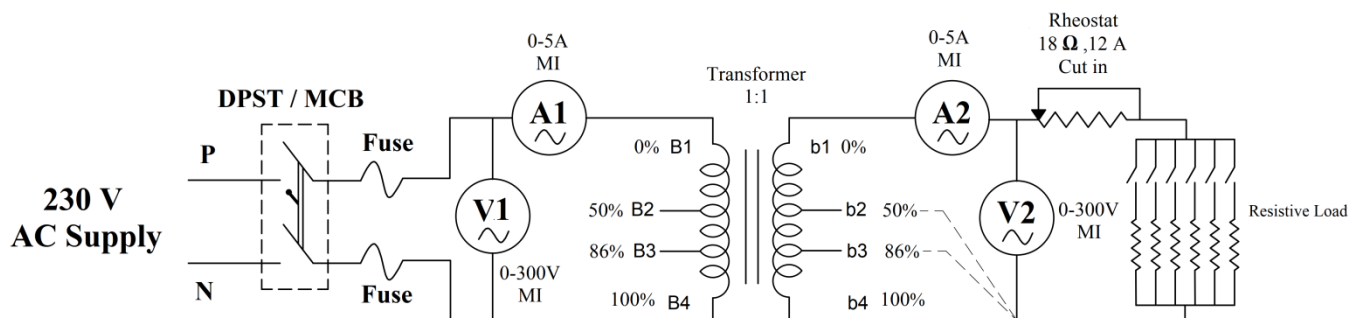

Fig: 7.1 Circuit diagram to investigate Voltage and Current Ratio
1. Connections are made as per the circuit diagram shown in Fig 7.1.